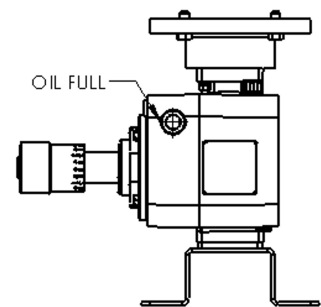

Figure 5
12. Fill gear casing with approximately 2.1qt (2.0L) oil to halfway mark on upper sight glass, (see Figure 5). Use Mobil SHC 634 or equivalent.